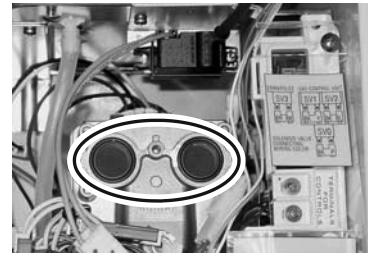

Figure 67
35. Make sure that the two black packings (Figure 67) are intact on the gas control assembly. Attach the gas manifold with 3 machine screws at the gas control assembly. Replace the lower and upper packings (included in kit) for the manifold plate removing any residue.